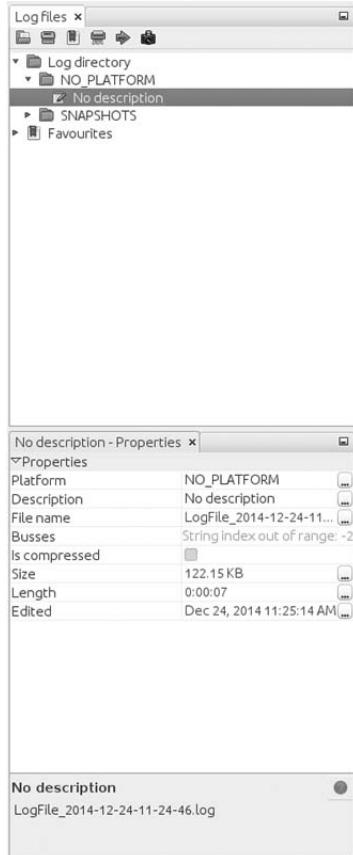

Figure 5-5: Right pane of Log files tab settings
To record CAN packets with Kayak, first click the Play button in the Log files tab ①. Then drag one or more buses from the Projects pane to the Busses field of the LogOutput window ②. Press the Record and Stop buttons at the bottom of the LogOutput window ③ to start or stop recording. Once your packet capture is complete, the logging should show in the Log Directory drop-down menu (see Figure 5-5).
Other than some metadata (PLATFORM, DESCRIPTION, and DEVICE_ALIAS), the log is pretty much the same as the one captured by the can-utils package: ❶ is the timestamp, ❷ is your bus, and ❸ is your arbitration ID and data separated by a # symbol. To play back the capture, right-click the **Log Description** in the right panel, and open the recording (see Figure 5-5).